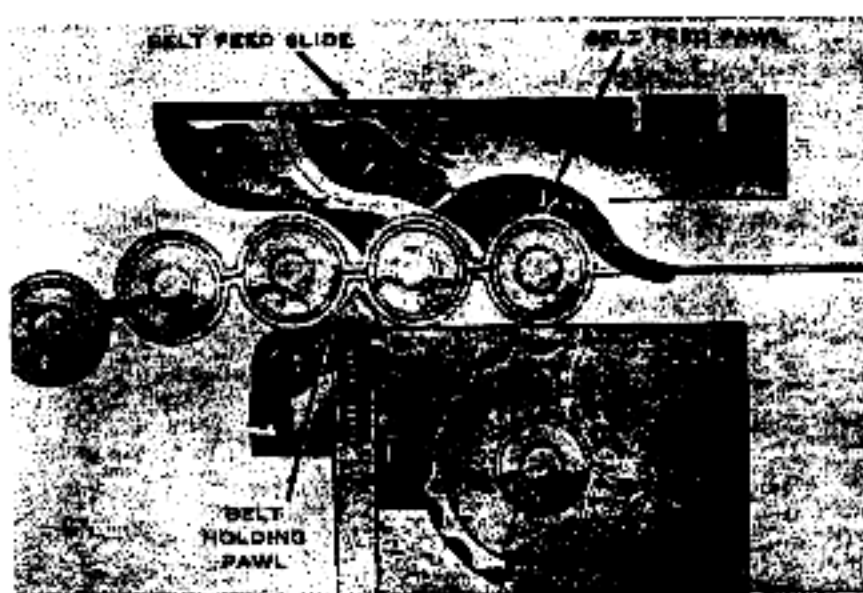

Figure 60. Action of belt feed and holding pawls.
- (2) As the bolt moves rearward during recoil, the belt feed lever is pivoted due to the action of the stud in the cam groove in the bolt. This causes the forward end of the belt feed lever to move the belt feed slide out of the left side of the receiver and over the metallic ammunition belt. The belt feed pawl then engages the next cartridge for feeding into the feedway (fig. 60).
- (3) The belt-holding pawl prevents the belt from dropping out of the feedway.
- (4) As the bolt moves forward, the belt
- (5) As the first cartridge is positioned against the cartridge stop, the second cartridge is carried over the belt-holding pawl that rises behind it and holds it in position to be engaged by the belt feed pawl in the next cycle (fig. 60). In the event the extractor fails to withdraw the leading round from the belt, the finger of the belt feed pawl, riding on top of this unextracted round, will hold the pawl in a raised position where it cannot engage in the next cartridge. Thus double feeding is impossible.